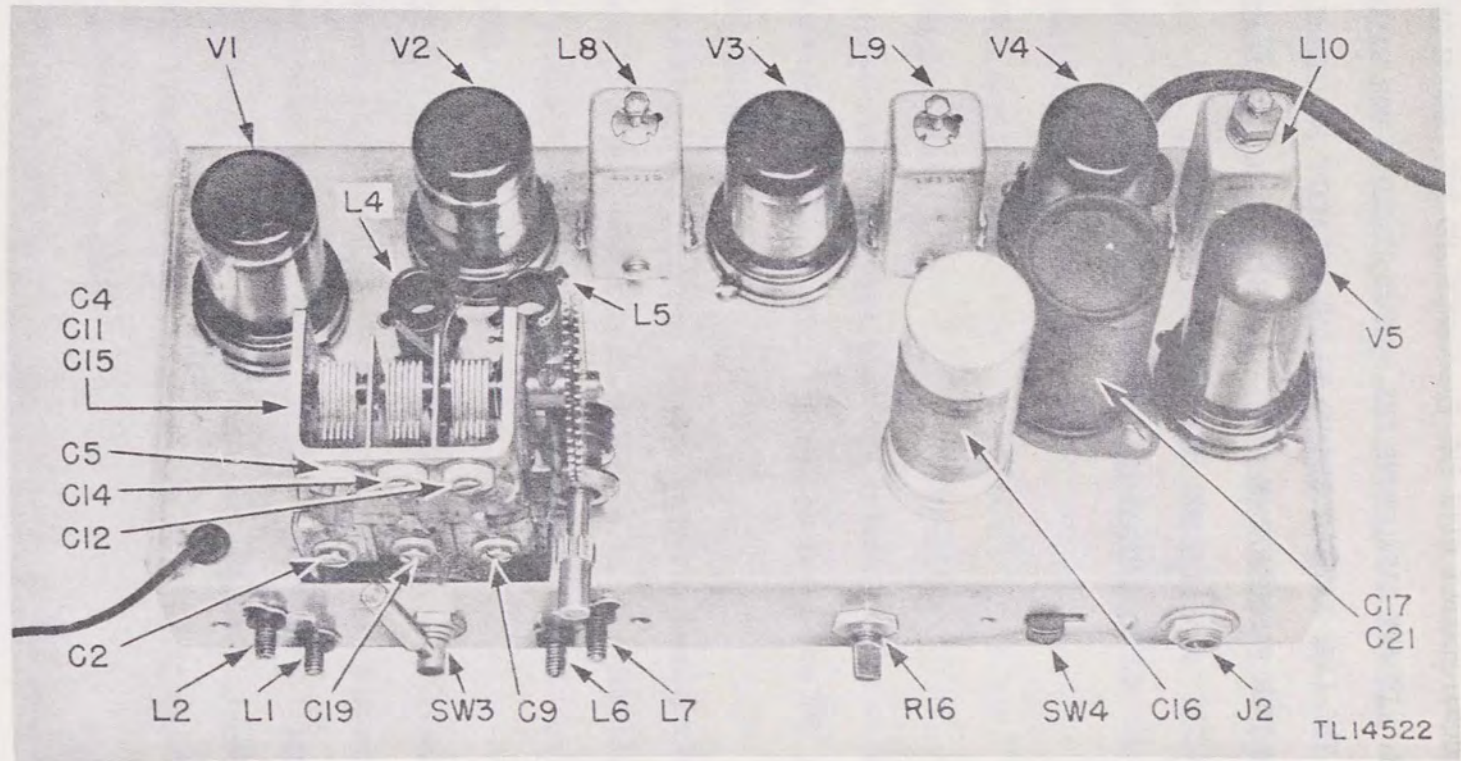

Figure 3. Radio Set AN/PRC-5, receiver chassis.
25. RECEIVER FUNCTIONING (fig. 3). In the REC position of the OFF-REC-SEND switch, the set acts as a five-tube superheterodyne receiver, exclusive of the power supply which is common to both the receiver and transmitter, consisting of one r-f amplifier stage, using a 6SK7 tube; one converter stage, using a 6SA7 tube; one i-f amplifier stage, using another 6SK7 tube; one combined diode detector and beat-frequency oscillator stage, using a 6SR7 tube; and two stages of a-f amplification using both portions of a twin-triode 6N7 tube.
d. High-frequency Oscillator Alignment. Realignment of the high-frequency oscillator circuits for either frequency band is seldom necessary unless the resonant frequency of the receiver, as indicated by the reading of the tuning dial, is greatly in error with respect to the actual frequency being received. The following procedure must be followed in adjusting the high-frequency oscillator trimmers. All adjustments are made with the output of the signal generator connected to the ANT and GND posts, in the upper right-hand corner of the front panel, and with the output meter connected as described in subparagraph **a** above. Always make the adjustments on band 2 first, since trimmer capacitors C5, C12, and C14 are common to both bands and their adjustment will, therefore, also affect the alignment of band 1. For location of the oscillator trimmer adjusting screws refer to figures 3 and 6.